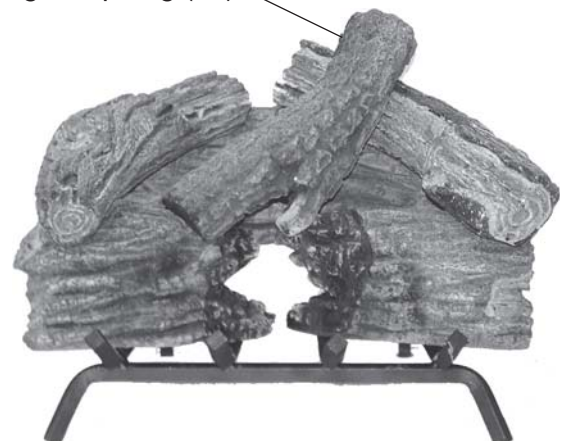

Figure 17 - Installing Right Top Log (#6)
7. Install right top log #5 as shown. *See Figure 17.*